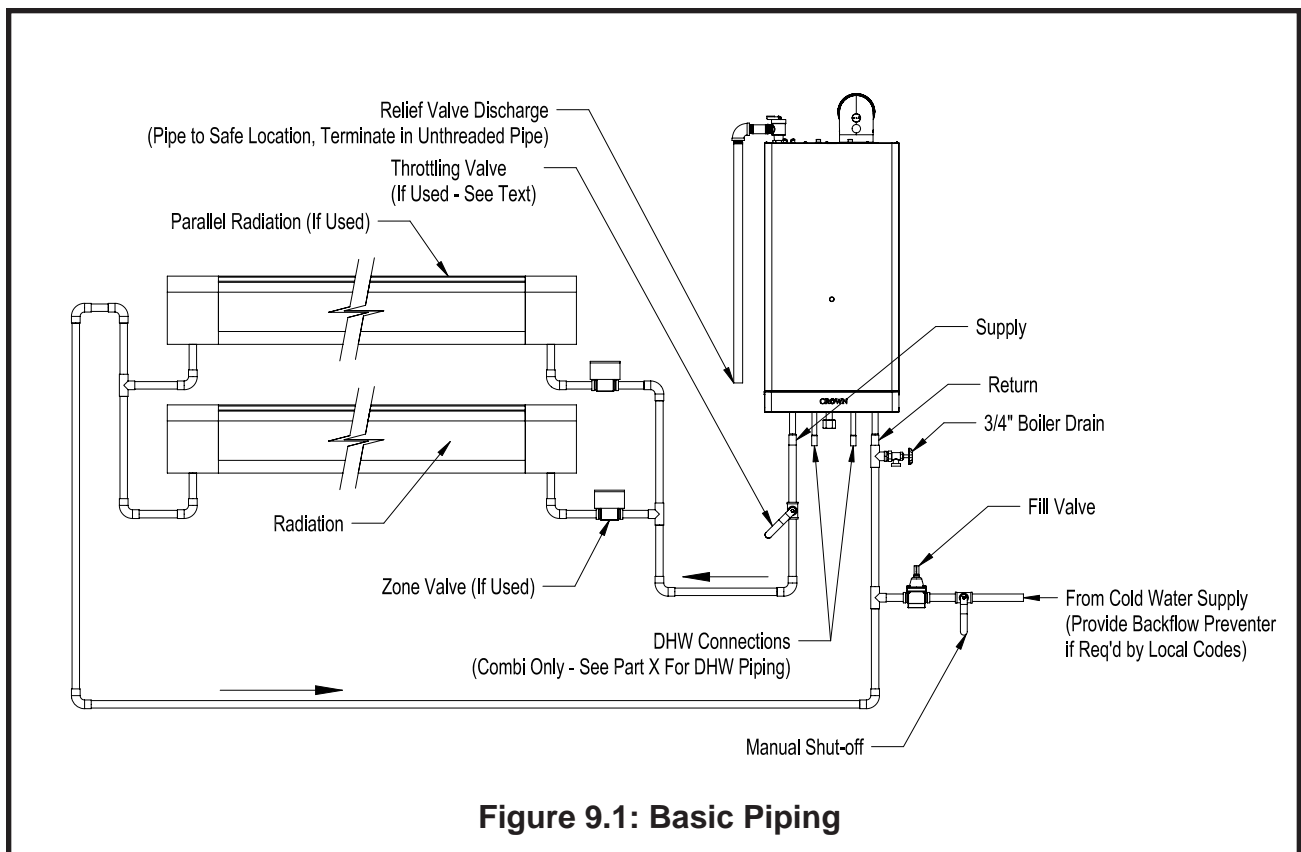
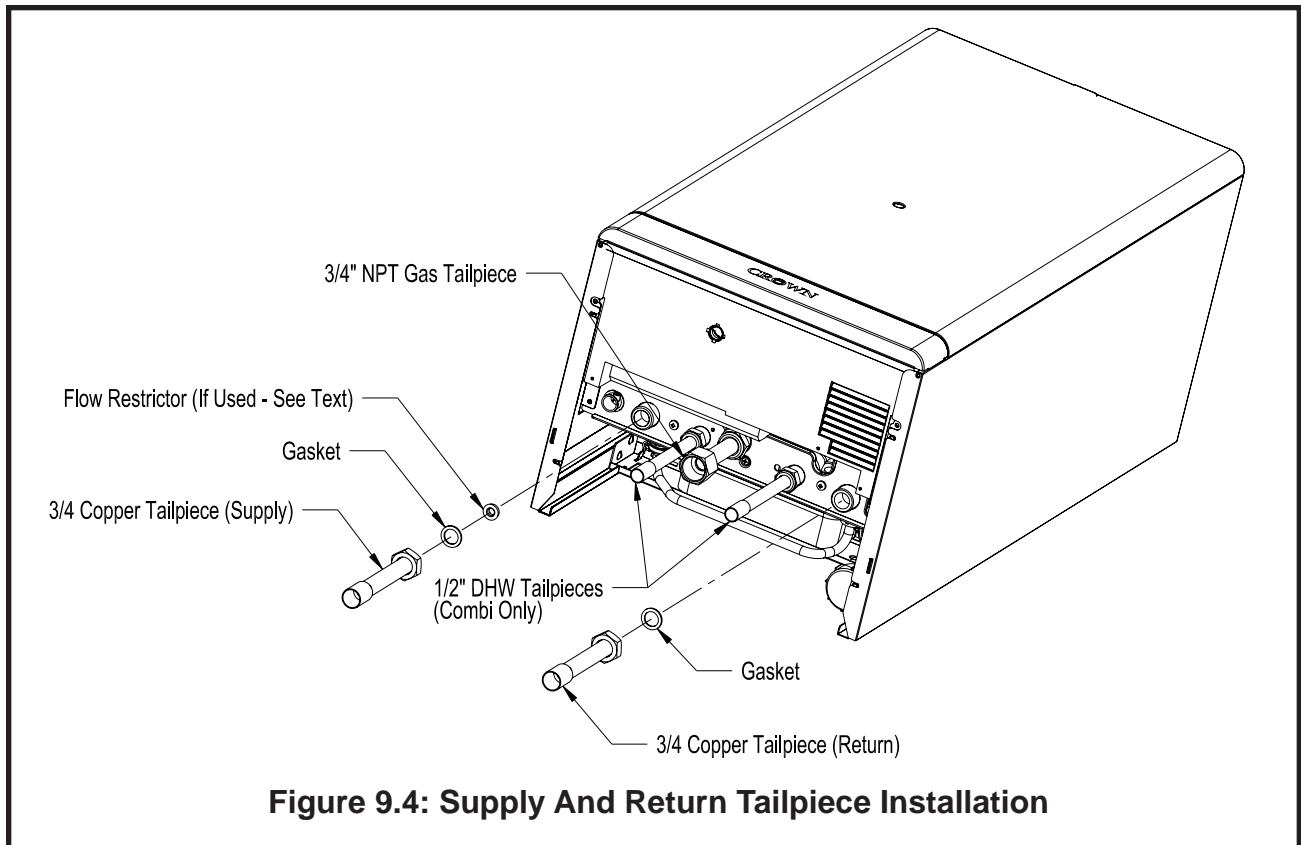
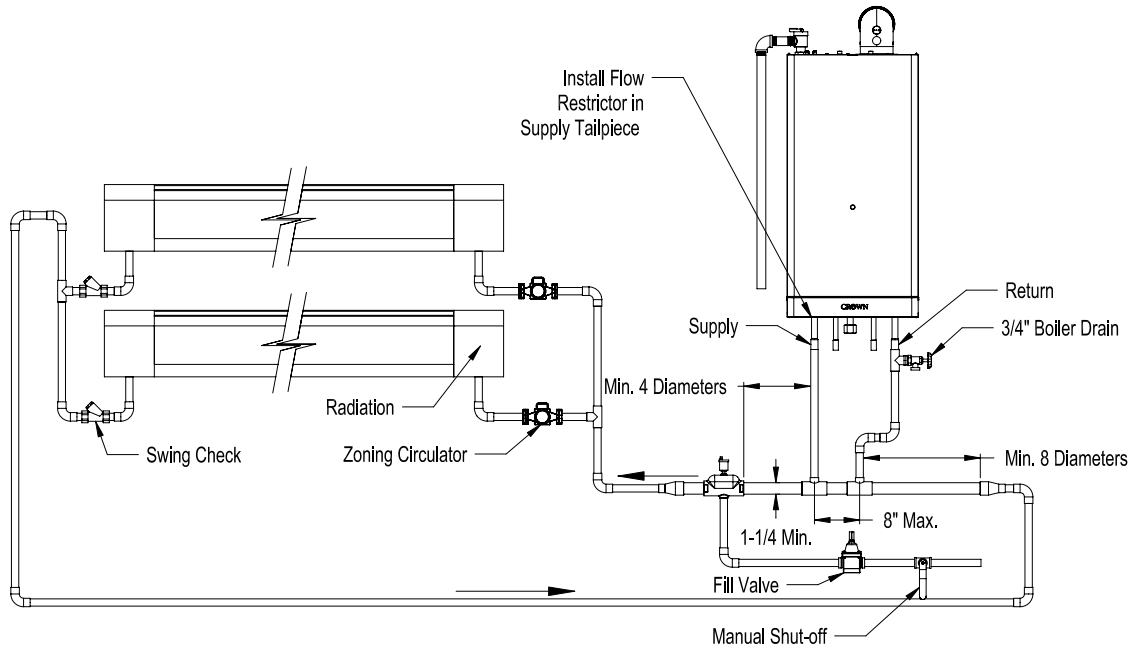

Figure 9.1: Basic Piping
Figure 9.4: Supply And Return Tailpiece Installation
Figure 9.5: Primary-Secondary Piping
Figure 9.1 shows typical boiler system connections on a single zone system. Additional information on hydronic system design may be found in *Installation of Residential Hydronic Systems* (Pub. #200) published by the Hydronics Institute in Berkeley Heights, NJ. The components in this system and their purposes are as follows:
- 3) Throttling Valve or Flow Restrictor - This boiler is equipped with a differential pressure switch to prove that there is flow through the boiler before allowing it to fire. Reliable operation of this switch requires that there be a head loss across the heating system of at least 5.1ft wc. In order to assure that this head loss will always be present, either a throttling valve must be installed as shown in Figure 9.1 or the flow restrictor shown in Figure 9.4 must be installed. Use the following guidelines to determine which device to use:
- If the boiler is connected to a primary-secondary system (Figure 9.5), install the orifice in the supply tailpiece as shown in Figure 9.4.
- If the boiler is connected to a circulator zone system, primary-secondary piping must be used. Install the orifice as shown in Figure 9.4.
- 7) Fill Valve (Required) – Either a manual or automatic fill valve may be used. Connect the fill as shown in Figure 9.1.
- 11) Drain Valve (Required) – Install a 3/4" boiler drain (not supplied) in the return piping as shown in Figure 9.1.
Boiler supply and return connections are located on the bottom of the boiler as shown in Figure 9.4. Copper 3/4" tail pieces are provided in the fitting bag along with gaskets. Sweat the first copper fittings to these tail pieces and then connect the tail pieces to the boiler using the gaskets provided. If required, install the flow restrictor in the supply as shown in Figure 9.4.
- 1) **Primary-Secondary Piping** – Primary-secondary piping is required when circulator zoning is used or when the system flow rate must be greater than 5.5 GPM. In these cases, the piping shown in Figure 9.5 is used so that the flow through the system is completely independent of the flow through the boiler. This ensures reliable operation of the boiler’s flow switch.
When assembling the piping shown in Figure 9.5, be sure to observe the minimum dimensions shown. The minimum pipe size of the primary piping in the vicinity of the tees is 1 1/4". At least 11" (8 diameters) of 1-1/4" straight pipe must be installed upstream of the tees as shown. At least 5 1/2" (4 diameters) of 1-1/4" straight pipe must be installed downstream of the tees.